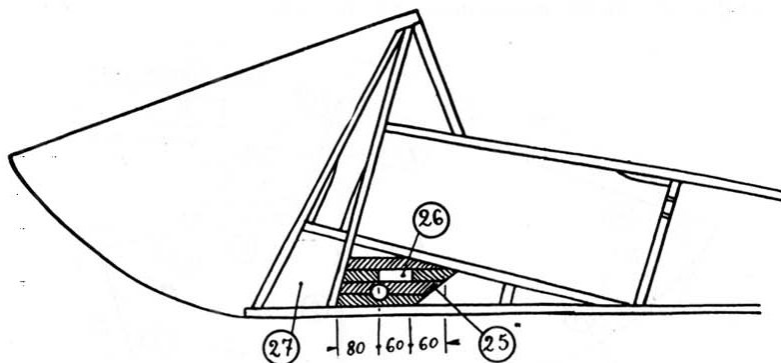

Figure 3.4: Openings at bottom of cockpit
Make the blocking (25) in fig. 3.4 with pieces of slats, leaving the gap 26 which measures 20×60 . With the tip of a knife, remove the plywood over this void; the pulley of the rudder cable will be placed there later. Also remove the plywood covering the quadrilateral (27), through which the axle will pass.
Cut off the excess of the branches of the lyre and plane away the side material (1) that extends above the lyre; for that purpose, the sides were drawn out in Figure 3.4 with 30 mm instead of 20 mm.